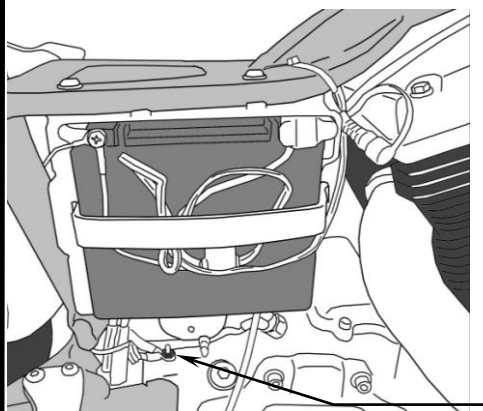

FIGURE 5
8. Route the longest Fi2000 oxygen sensor harness from rear of engine area to below battery and next to starter. Remove the nut securing ground wire and pull off ground wire to allow connectors to pass through between rear of transmission case and harness sheath in front of swingarm, see Figure 5. Reinstall nut securely!